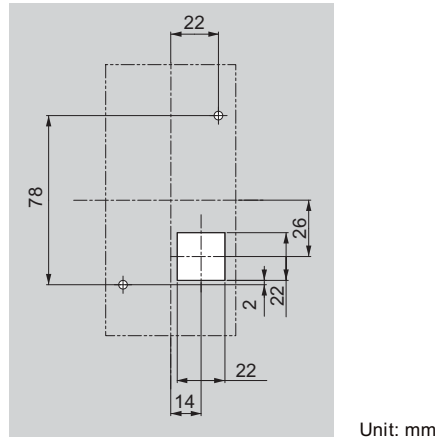

Figure 2.10 Panel Cut-Out Dimensions (External/Face-Mount Installation)
1. Cut an opening in the enclosure panel for the digital operator as shown in Figure 2.10.